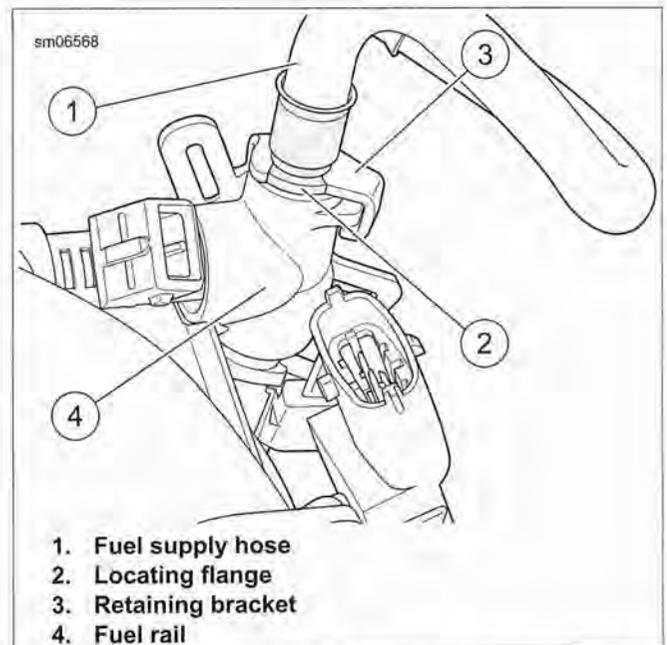

Figure 4-72. Mounting Fuel Hose and Fuel Rail: XL Models
*The fuel supply hose must be oriented properly when installing the retaining bracket. See Figure 4-72.*
- a. See Figure 4-72. Orient fuel supply hose so that locating flange (2) is positioned as shown.
- b. Install retaining bracket (3) so that U-shaped opening in bracket fits around fuel supply hose and locating flange as shown.